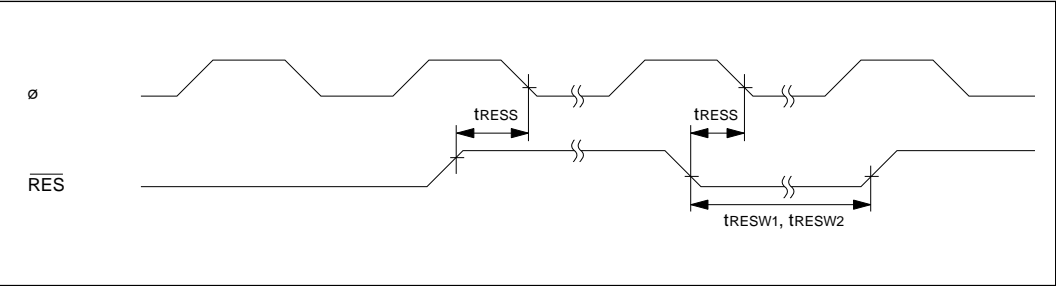

Figure 20-7 Reset Input Timing
20.3.2 Control Signal Timing	Figures 20-7 to 20-10